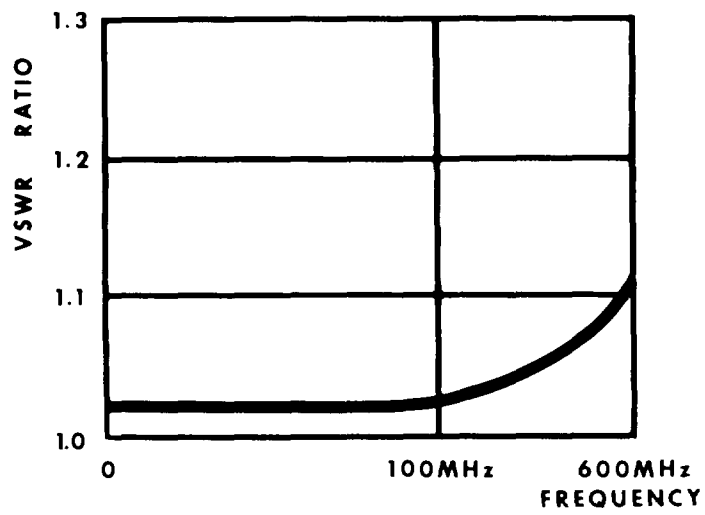

Figure 4-5. VSWR curve for 50-ohm termination adapter.
- c. Type BNC 50-ohm termination adapter: This is the most widely used termination with a VSWR of less than 1.2:1 to 600MHz. It is not recommended for accurate measurements above this frequency. (see figure 4-5) The termination has a 5 watt power rating.